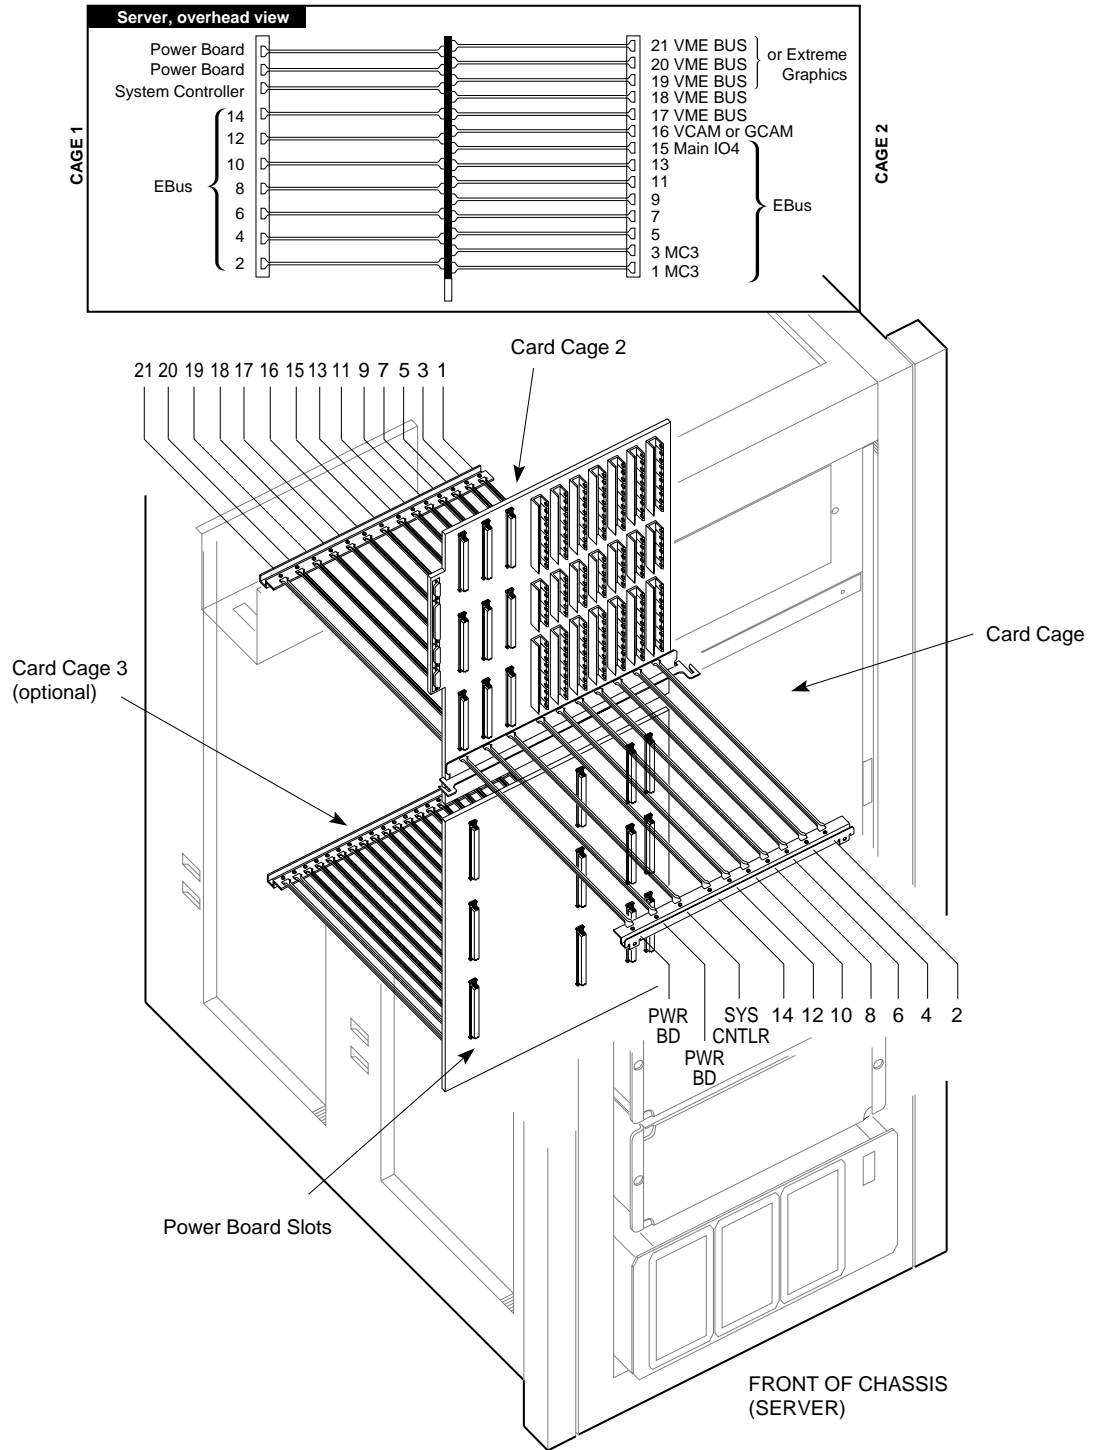
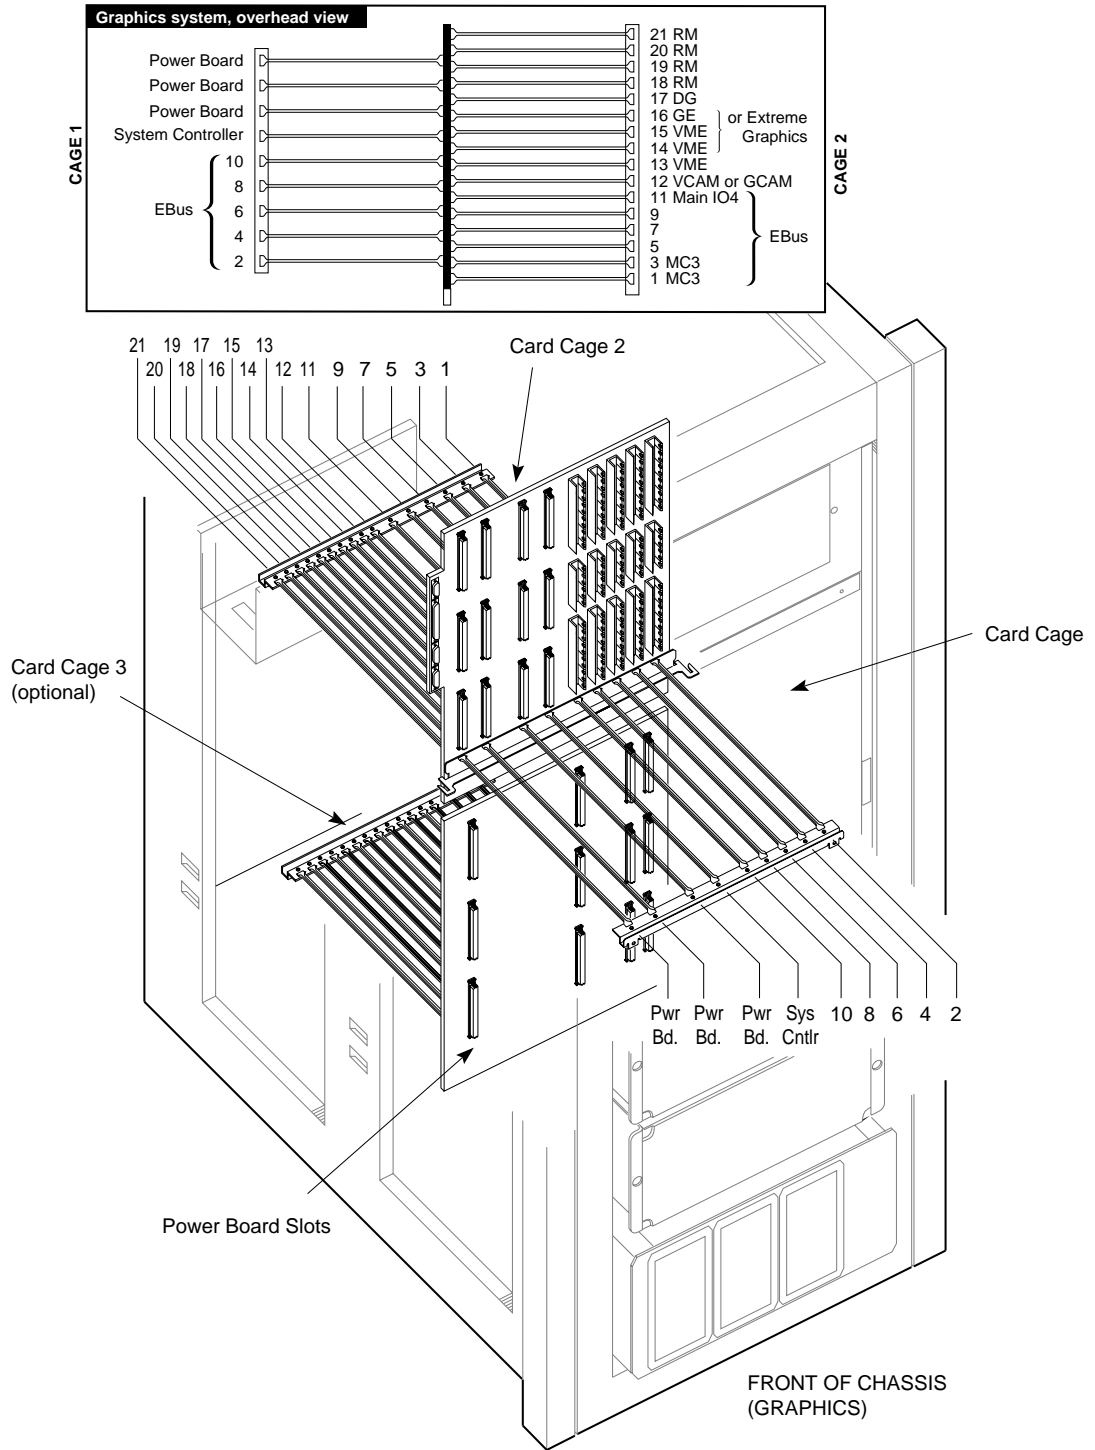

Figure 3-3 Challenge XL Slot Assignments
Figure 3-5 Onyx Rackmount Slot Assignments
- If there are no unoccupied mezzanine slots, you must install another IO4 board. Figure 3-3 and Figure 3-5 illustrate the maximum number and locations for IO4 boards in rackmount chassis.
3. Open the rear door and pull down the top I/O panel (cardcage 2) at the rear of the chassis to expose the IO4 boards. The board slots should be visible as illustrated in Figure 3-3.
3. Open the front door and pull down the I/O panel in the front of the chassis to access the IO4 board. The board slots should be visible, as illustrated in Figure 3-5.